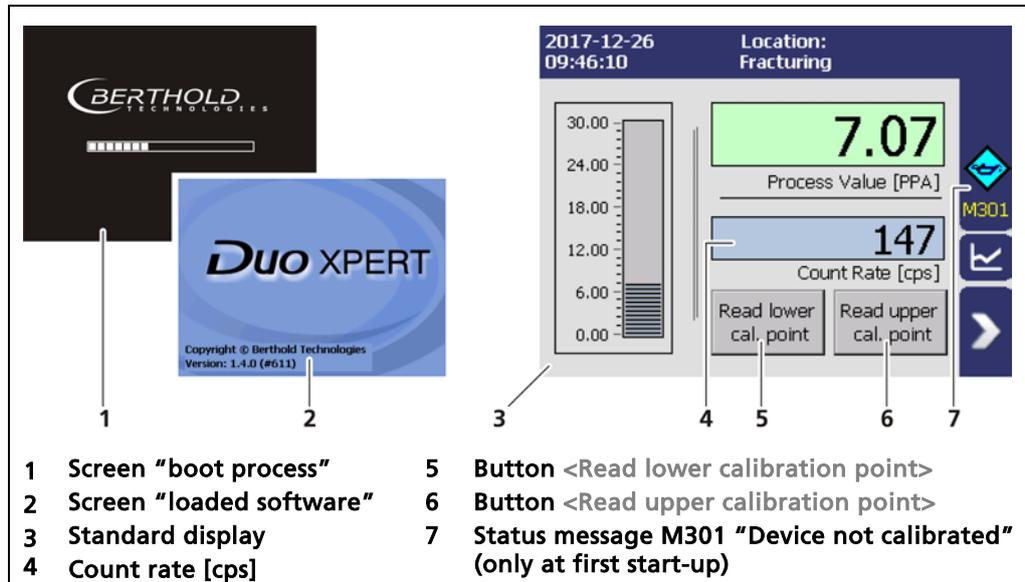

Fig. 21 EVU screens
- The EVU starts up automatically (Fig. 21, item 1, item 2) if it is connected correctly. The standard display with non-calibrated values is displayed (Fig. 21, item 3).
- ▶ The count rate increases on the standard display (Fig. 21, item 4)